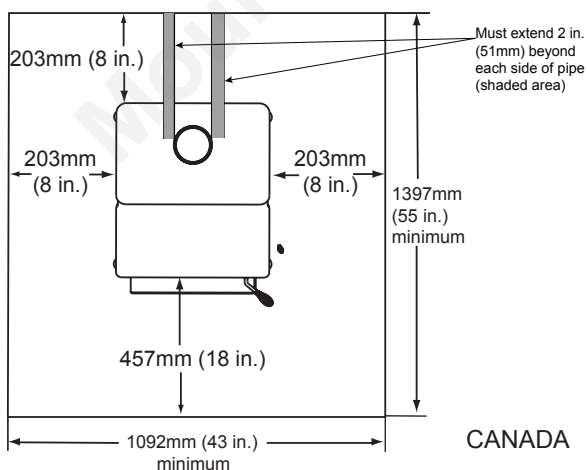

Figure 9.2
In Canada, similar floor protection must be provided 18 inches (457mm) in front and 8 inches (203mm) from the sides and rear of the appliance. **Figure 9.2 *See exception.**
***EXCEPTION:** Non-combustible floor protector must extend beneath the flue pipe when installed with horizontal venting and extend 2 inches (51mm) beyond each side. **See Figure 9.2**